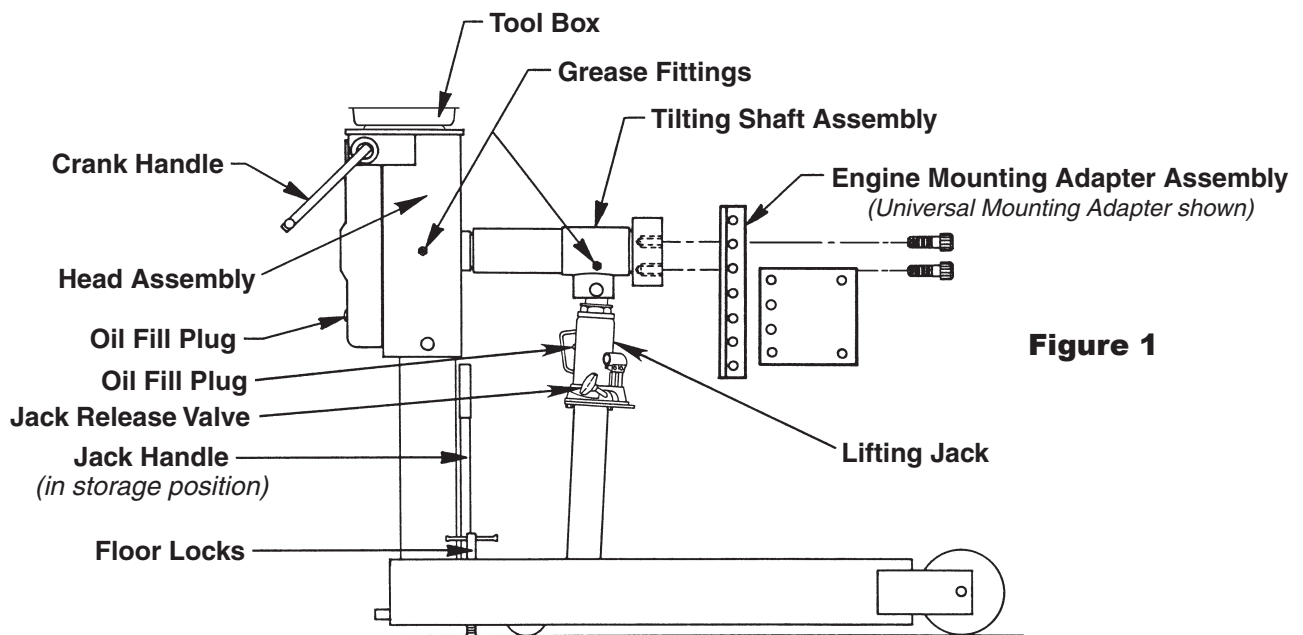

Figure 1
6. Raise the lifting jack assembly and fit it into the mounting bracket located under the tilting shaft assembly. Insert a pin (15) and fasten the pin in place with a retaining ring (3).
7. Place the jack handle (27) in its storage position on the repair stand as shown in Figure 1.
8. Tighten the collar (5) until snug against the bushing on the tube assembly (2). Back off the collar 1/8 turn and tighten the set screw (4).
9. If an engine mounting adapter has been included, attach it to the tilting shaft as shown in Figure 1. Torque the bolts to 610 N•m (450 ft. lbs.)